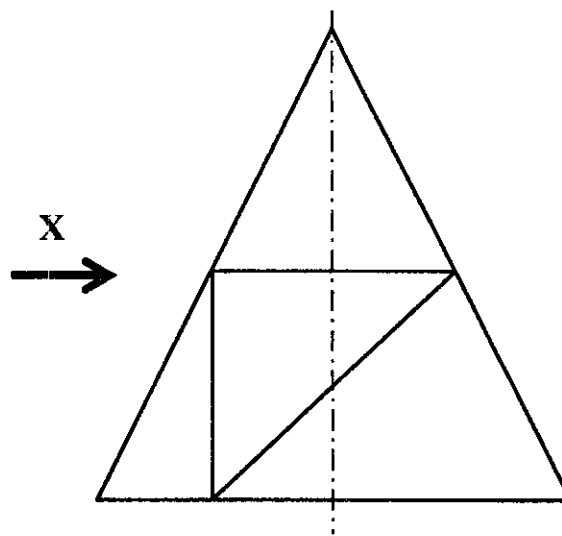

Figure Q3
Q3. A vertical cone of diameter 100 mm and height 100 mm is resting on the horizontal plane (HP). A triangular prism intersects the cone as shown in the **Front View** given in **Figure Q3**.